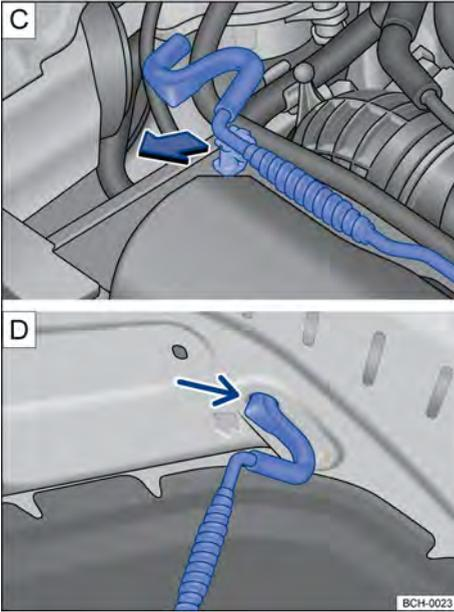

Fig. 188 [C] Bonnet stay. [D] Bonnet secured with the bonnet stay.
- Take the bonnet stay out of the holder as indicated by the arrow → Fig. 188 [C] and insert it into the opening in the bonnet → Fig. 188 [D].
- Take the bonnet stay out of the opening in the bonnet → Fig. 188 [D] and place it back into its resting position holder on the lock carrier → Fig. 188 [C].